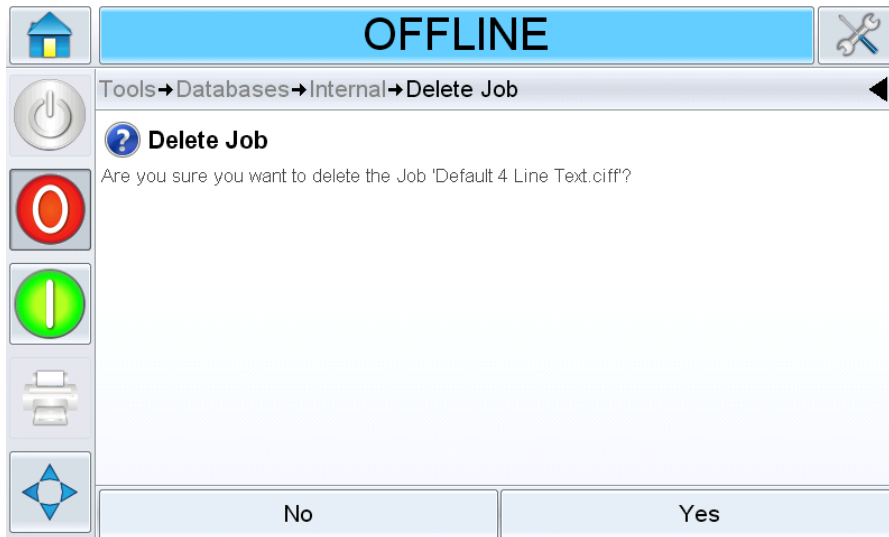

Figure 6-13: Confirmation Screen
6. Confirm the job to be removed (Figure 6-13).